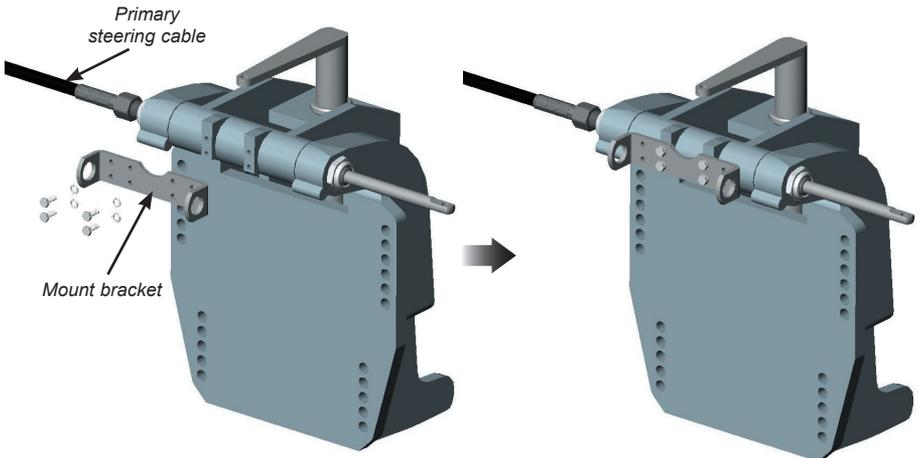

Fig B6 - Fitting the cable mount bracket
- The bracket attaches to the four threaded mounting holes on the front face of the tilt tube (Fig B6). Four M6 $\frac{1}{4}$ -28 UNF bolts and lockwashers are supplied in the kit.